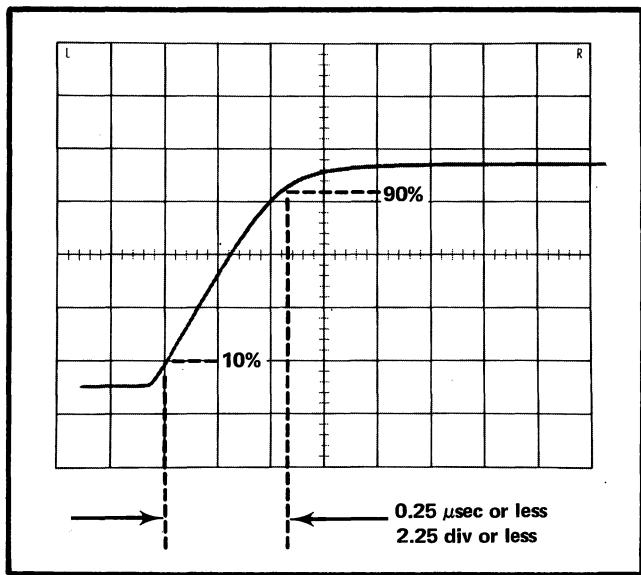

Fig. 5-15. Typical CRT display when checking calibrator risetime.
- CHECK—CRT display for two and a half divisions or less horizontally between the 10% and 90% points on the leading edge of the calibrator waveform (0.25 microsecond or less risetime; see Fig. 5-15).